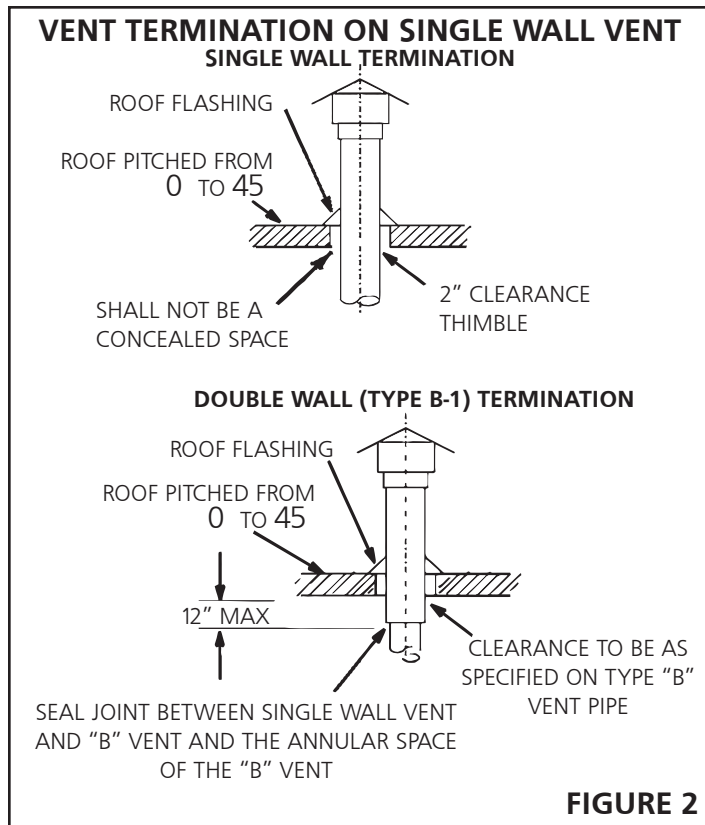

FIGURE 2
1. US: MHU unit heaters are to be used with NFPA- or ANSI-approved chimneys, U.L. listed type B-1 gas vents, single wall metal pipe, or listed chimney lining system for gas venting where applicable, as well as the modifications and limitations listed in figure 2. Seal single wall vent material according to the section A - General Recommendations and Requirements.
8. When termination is routed through an exterior combustible wall the vent must be supported using a listed clearance thimble. Seal the connection between the single wall and double wall pipes and the annular space of the double wall pipe as shown in figure 2. Inside edge of vent termination tee must be at least 12 inches from outside wall as shown in figure 3.